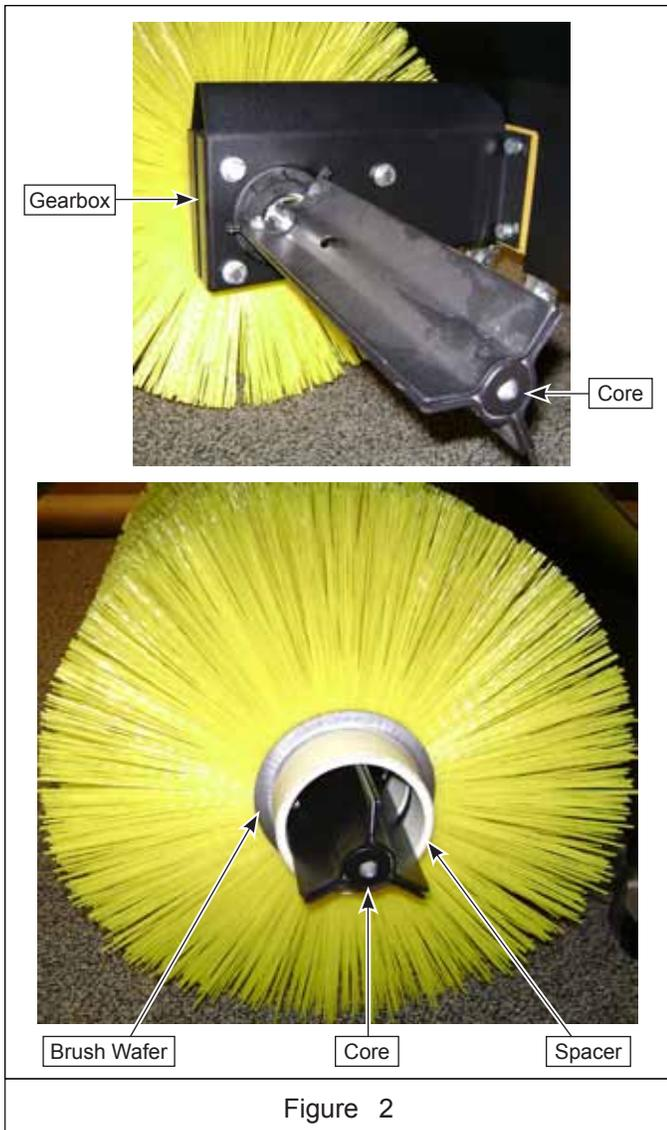

Figure 2
2. Slide brush wafers and spacer rings off brush core. Retain spacer rings. See Figure 2.